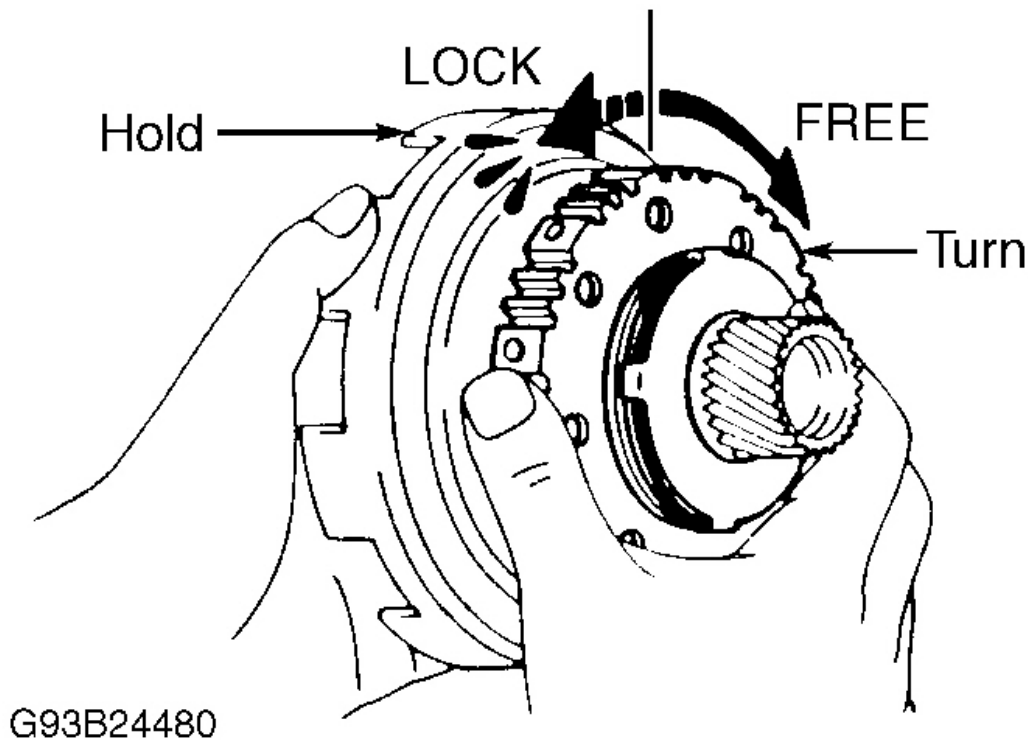

Fig. 37: Checking No. 1 One-Way Clutch
1. Check No. 1 one-way clutch operation. Hold sun gear (shell) and turn hub. Hub should rotate freely clockwise and lock when turned counterclockwise. See **Fig. 37** . Remove 2nd brake hub and No. 1 one-way clutch from sun gear.